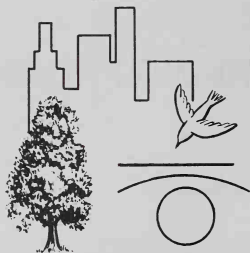

Fig. 2-1. Combinations of lines are used to form shapes.
1. Line. All things we can see have line. Buildings, cars, trees, flowers and birds are all made up of lines, Fig. 2-1. There are three principal types of line – straight, curved and circular. These lines, when properly combined, give an article a pleasing shape.